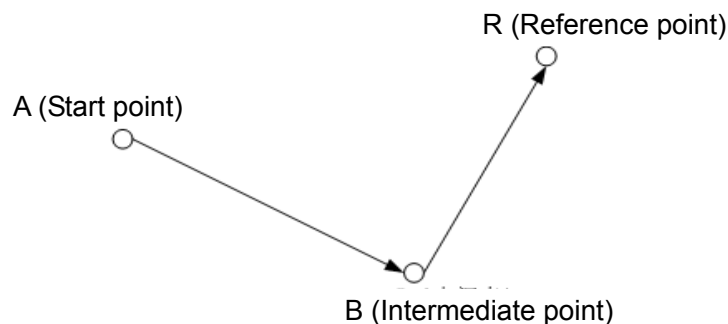

Fig. 3-10
**Process for command action** (See the figure 3-10):
- (1) Positioning from current position to intermediate point of command axis at the rapid traverse rate (From point A to B)
- (2) Positioning to the reference point from intermediate point at the rapid traverse rate (From point B to R)
- (3) If the machine tool is unlocked, the zero return indicator lights up when the reference point return is finished.